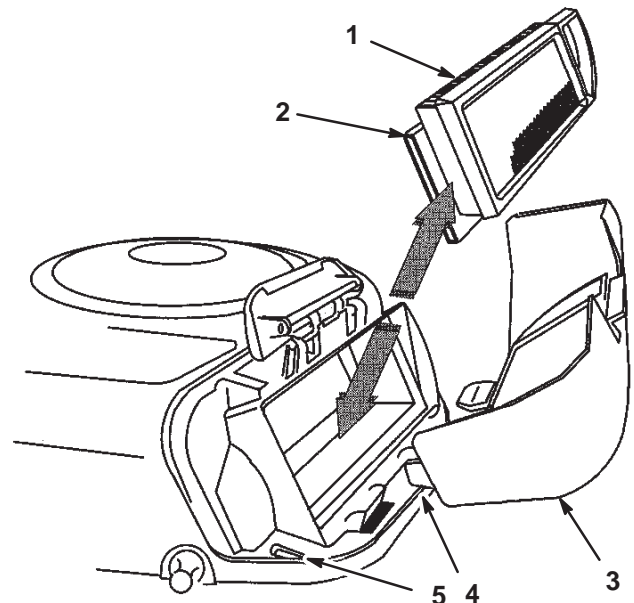

Figure 22
4. Carefully slide the paper element and foam element from the blower housing (Fig. 22).
2. Align the tabs on the air cleaner cover with the slots of the blower housing (Fig. 22). Hook the handle onto the cover and press down on the handle to lock the cover in place.